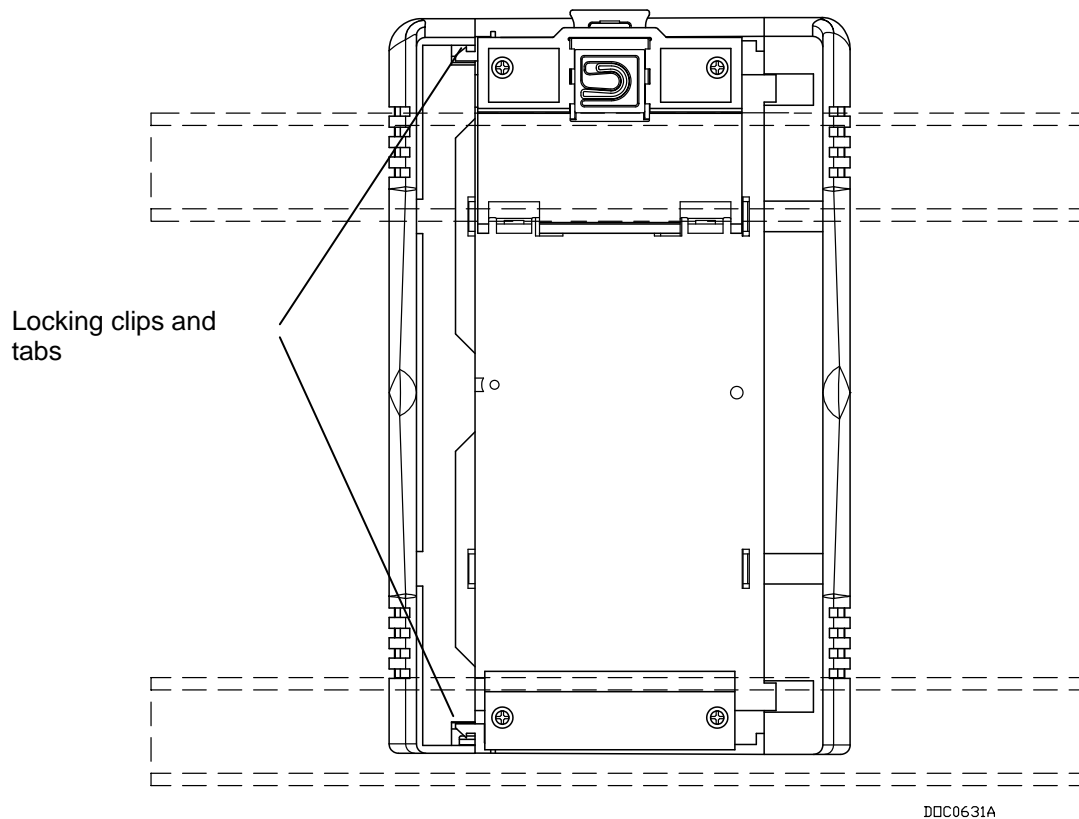

Figure 2-6. Plastic Snaps on the Back of the EXP
3. Turn the ROC827 around so that the back of the unit faces you (as shown in Figure 2-6).